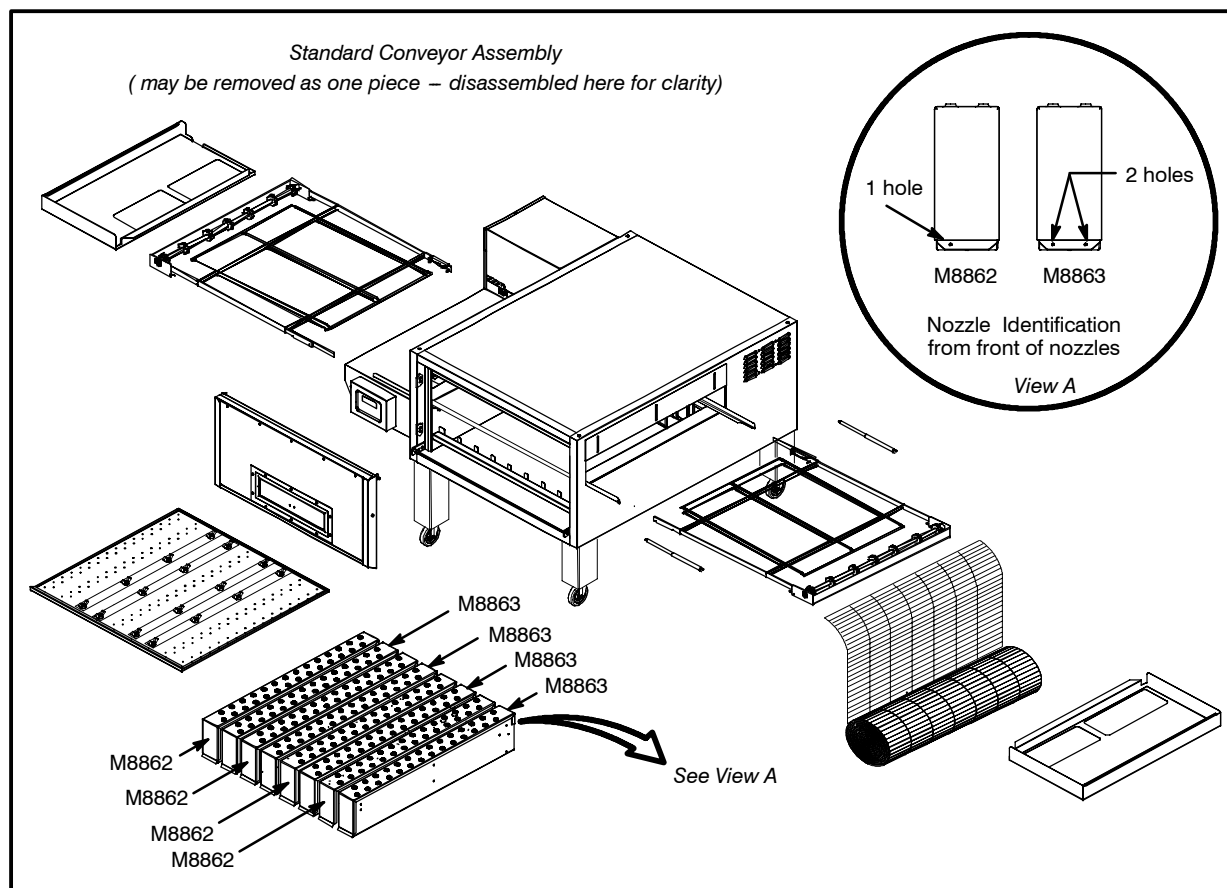

Figure 23
- Slide the belt out from one end. Be sure to roll the belt as shown in Figure 23. Otherwise the belt will be upside down when rethreading.
13. Reassemble the oven. Be sure the nozzles are installed in the correct order. See Figure 23.